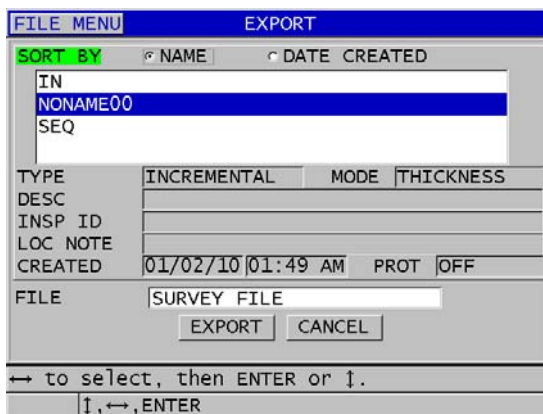

Figure 14-5 The EXPORT screen
5. In the **EXPORT** screen (see Figure 14-5 on page 252):